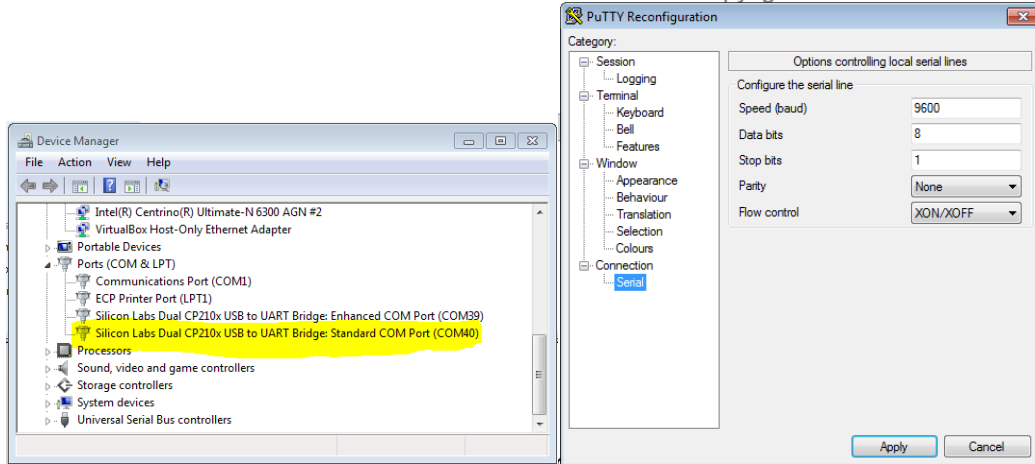
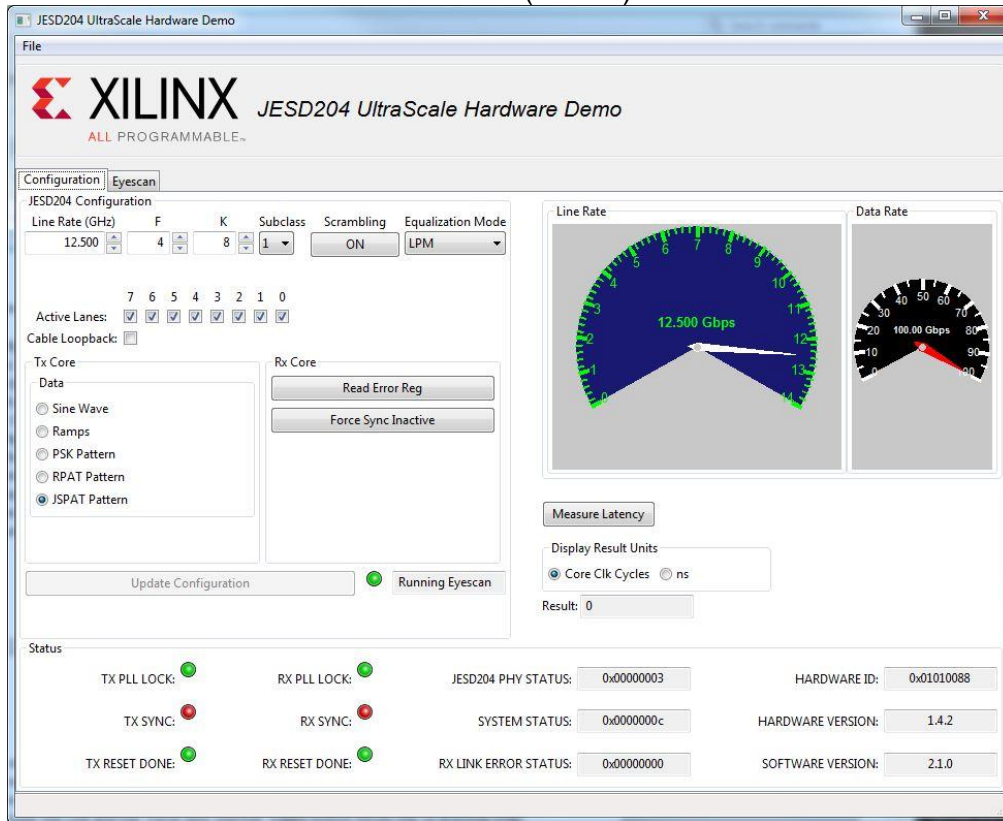

Figure 6 Status console UART Setup
Figure 17 Configuration Tab When Running Eyescan
- Configure a terminal application (Tera Term, Hyperterm, PuTTY etc) to communicate with the COM port assigned to the Silicon Labs CP210x standard interface as shown in Figure 6.
In the second tab of the GUI (which is only displayed if connected to a KCU105), Figure 6, Eyescan can be run on any enabled lane. To start the data sampling required to display the BER heat map, select the correct lane tab depending on the lane wanting to run Eyescan and then click on Start Eyescan. Once clicked the button will grey out until the process is complete. Note that while Eyescan is running, changing the configuration of the JESD204 cores is disabled (Figure 17). Eyescan can be run in parallel on multiple lanes. The time required to complete the Eyescan depends on the line rate and equalization mode selected in the Configuration tab.